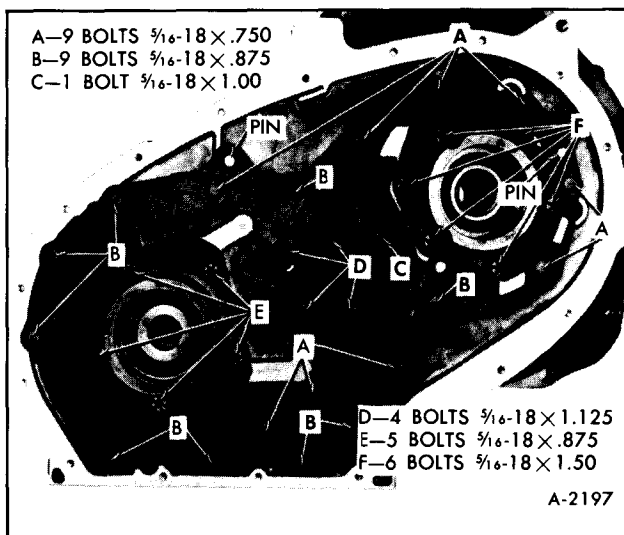

Figure 88—Pump Cover Plate Screws
2. Install pump cover plate on transmission and install attaching bolts per bolt chart, Figure 88.
3. Install six retaining bolts (F), finger tight, Figure 88.